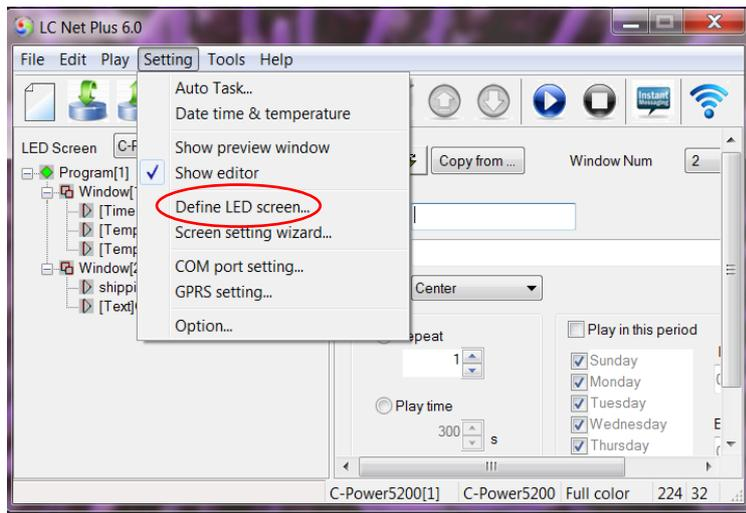

Figure2 Go to “Define LED screen”
- 1) Click “Setting” – “Define LED screen”, as shown in Figure2.